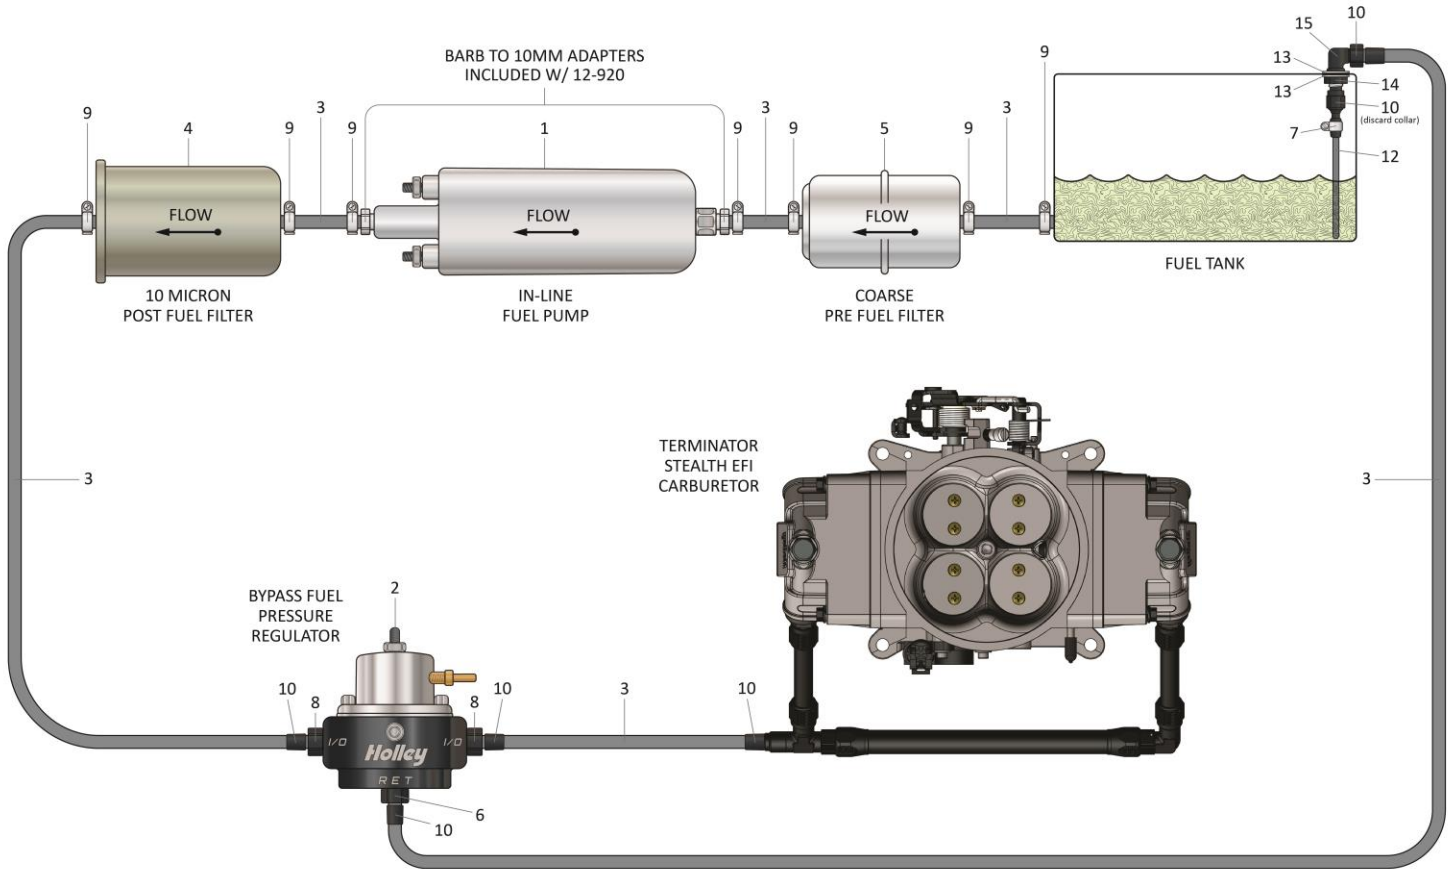

Figure 42
1. Use **Figure 42** below as a reference for the orientation and location of the fuel system components:
1. With the fuel pump, filters, and bulkhead fitting all in place. You are now ready to install the fuel lines. Some connections will use hose clamps (Item 9), while others will use AN hose ends (Item 10). These connections are noted in Figures 42 & 44. Be sure to read and thoroughly understand all steps, notes, and hose assembly instructions (Section 27.5) below before proceeding with the fuel line installation.